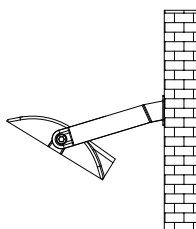

figure 3.4
Step 3: Loosen the screws, adjust the lamp angles as per actual demands and then tighten the screws;(figure 3.4)